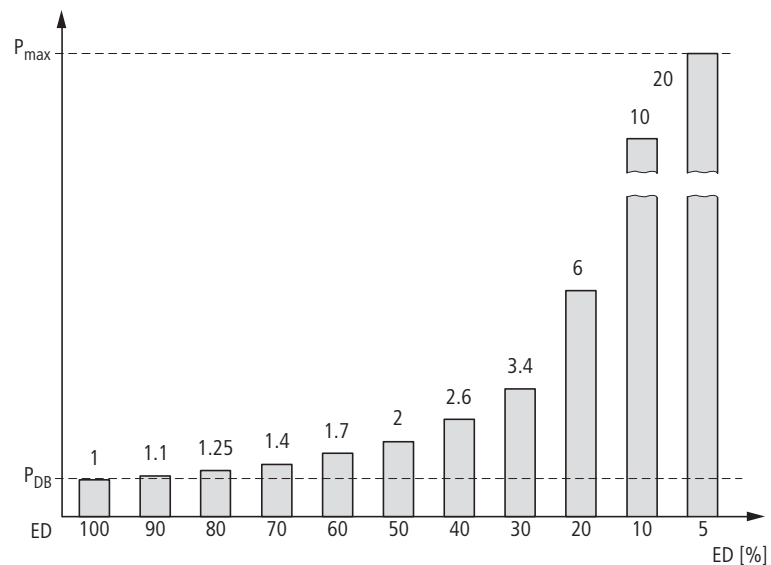

Figure 150: Overload factors (e.g. BR1...)
Resistor BR10561K0-T-PF has a continuous rating of 1000 W. At 40 % ED the permissible overload factor is 2.6 (→ Figure 150, „Overload factors (e.g. BR1...)“). The short-time rating here is 2600 W. At 20 % ED the permissible overload factor is 6 and thus the short-time rating $P_{\max} = 6000$ W.
- ➔ With braking resistance BR3... the permissible overload factor is around 50 % of the value of BR1... (➔ Figure 150, „Overload factors (e.g. BR1...)“).